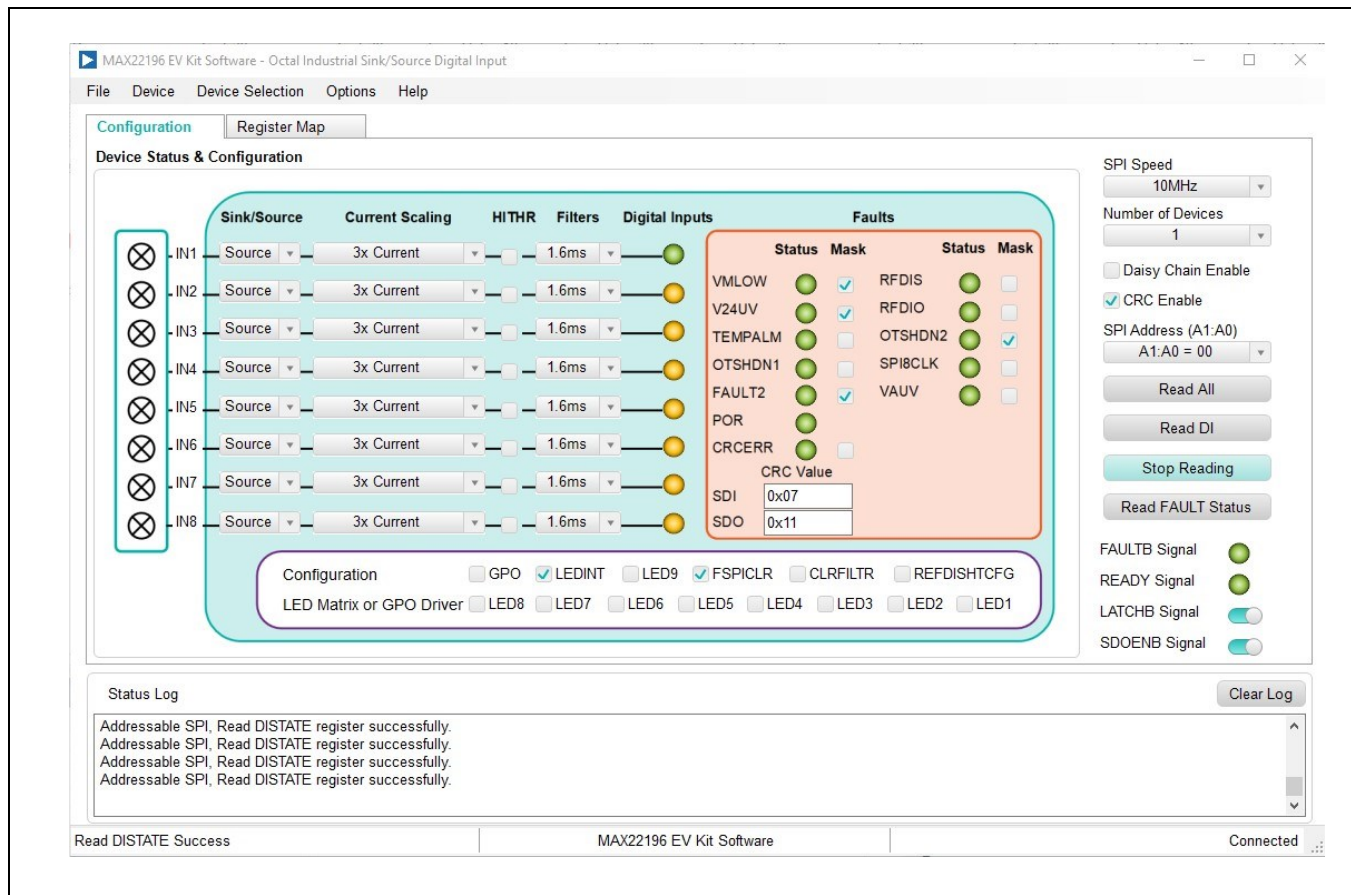

Figure 3. MAX22196 EV Kit Software—Type 2 Source Mode Configuration
16. Configure all channels to Type 2 Source mode. Configure all channels' **Sink/Source** dropdown box to **Source** mode, **Current Scaling** box to **3x Current**, and **HITHR** checkbox to be disabled as shown in Figure 3. Once the configuration is done, click **Read DI Continuously**. The EV kit software now reads the DISTATE register continuously.